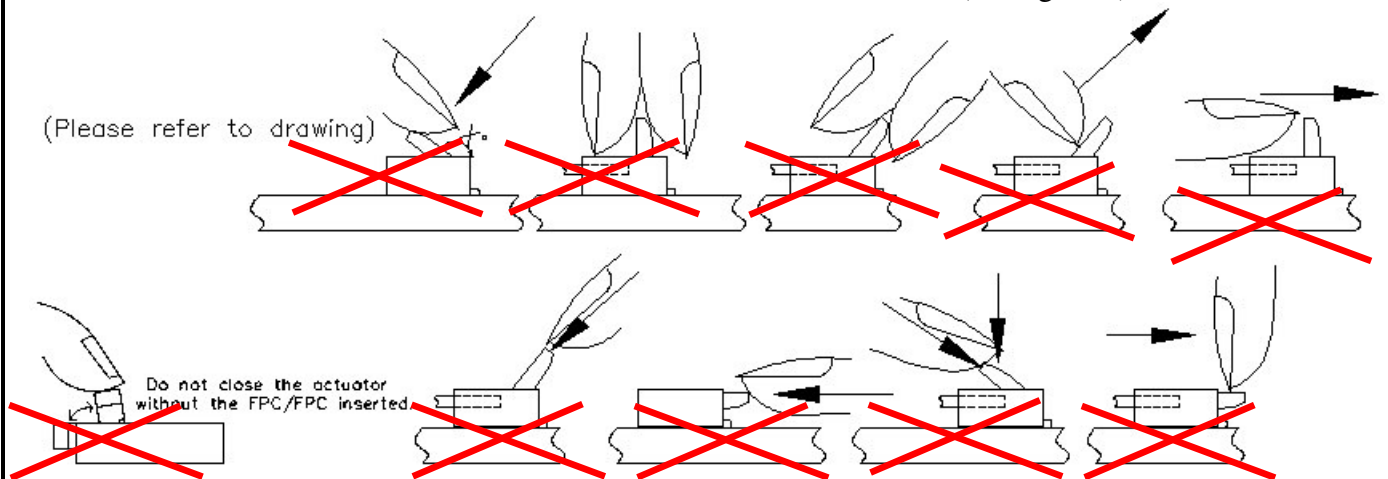

Figure 8.
- The connector will assure reliable performance when the actuator is open to an angle (please refer to drawing) maximum. Do not exceed this angle, as this may cause permanent damage to the connector. (see figure 8)
- Avoid grasping the actuator(Lock) with two fingers or lifting the actuator(Lock) with fingernail. (see figure 8)
- Do not apply force in the direction of arrows. Doing this may cause the actuator to be detached or damaged. (see figure 8).
- Do not close the actuator without the FPC/FPC inserted. (see figure 8)